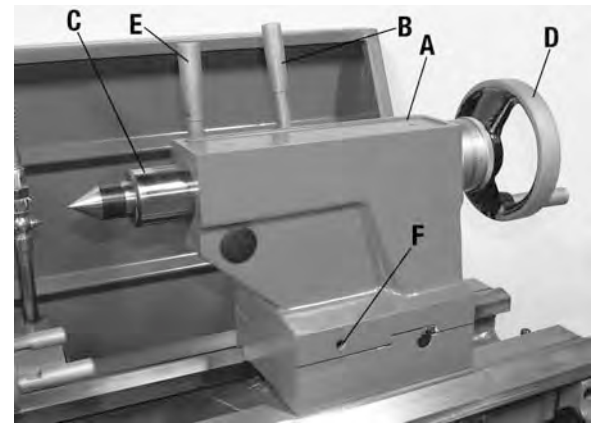

FIGURE 8
The tailstock (A) Fig.8 can be moved freely on the bedway and fastened at any position using the tailstock lock lever (B). The tailstock quill (C) can be moved in and out by using handwheel (D) and then locked in place using quill locking lever (E). Dead centers or drill chucks are normally installed in the tailstock quill.
To make a cross-wise adjustment, unlock tailstock lever (B) Fig.8 and adjust set screws (F) on both sides of the tailstock until the distance at both ends of the ground steel bar are the same.